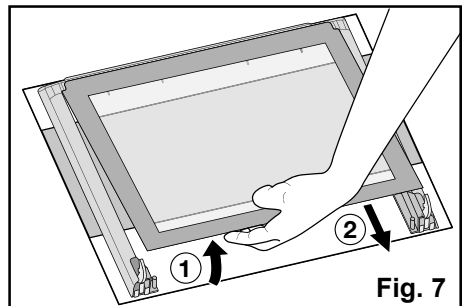

Fig. 7
- 9) gently lift and carefully take off the uppermost pane marked by a decorative frame on 4 sides (Fig. 7).